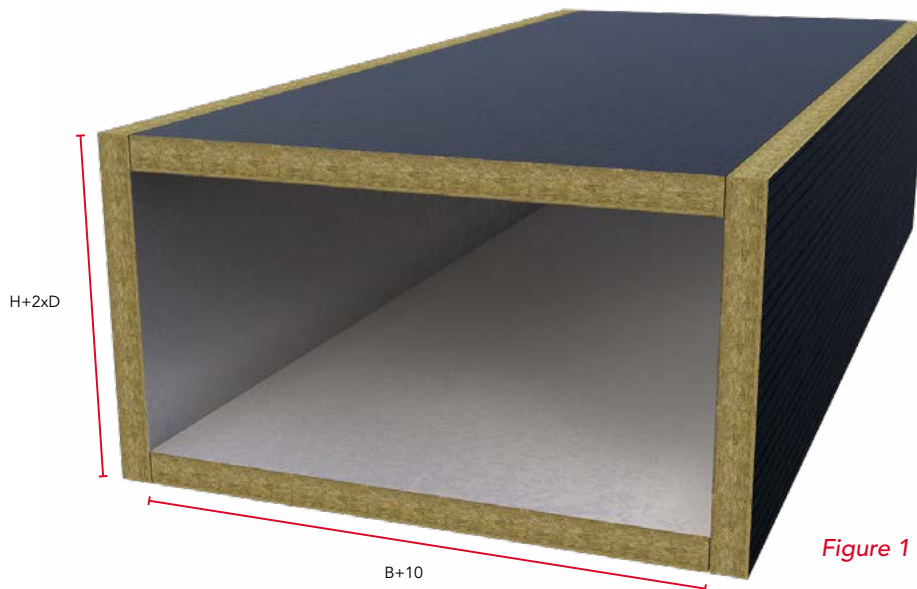

Figure 1
FirePro DuctRock is easily cut with a hand saw or alternatively a circular/table saw. The top and bottom slabs should be cut 10mm wider than the width of the duct to ensure a tight cross joint with the side slabs. The side slabs should be cut to the height of the duct (H) + 2 x the insulation thickness as shown in Figure 1.